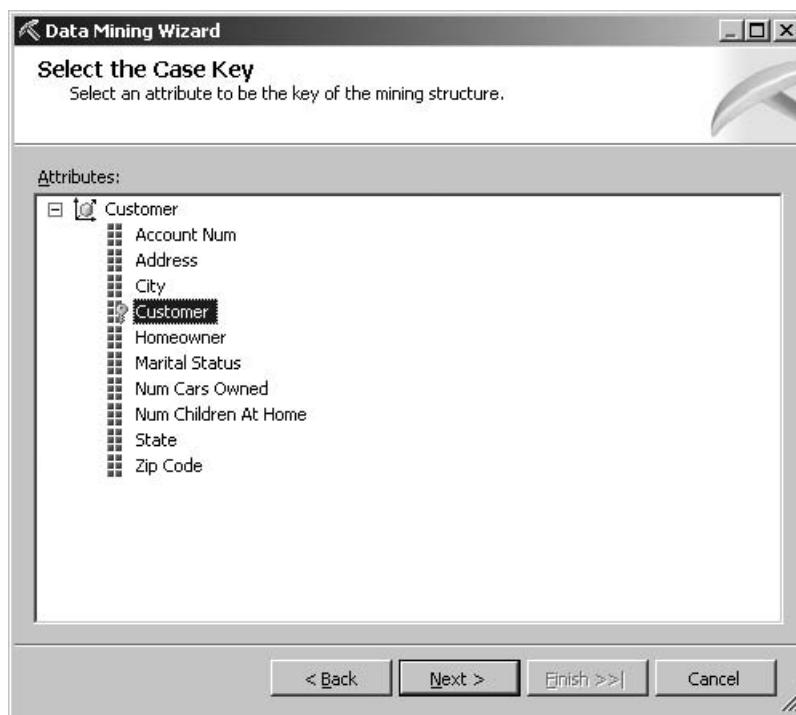

Figure 14-4 The Select the Case Key page of the Data Mining Wizard
16. Select the Customer Dimension. This is the main source of information for this mining operation. Click Next. The Select the Case Key page appears as shown in Figure 14-4.